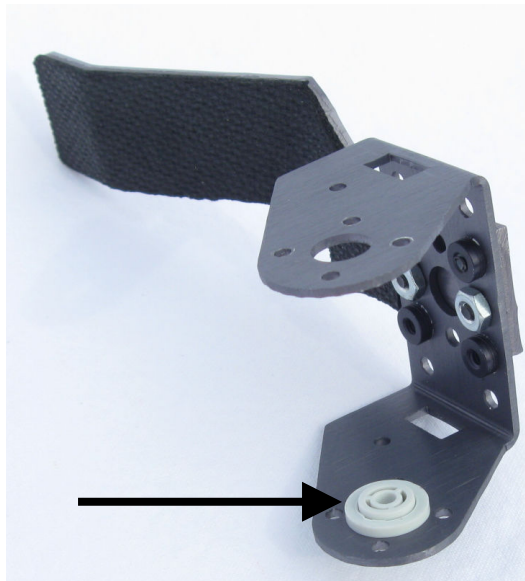

Figure 5
6. Install the plastic standoff and washer to each of the AX- 45 brackets as shown in figure 5. Note that the washer is installed on the inside of the AX 45 bracket.